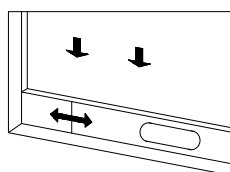
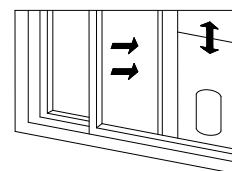

Figure2
Figure3
- 1). Half open the window, and mount the window sealing plate assembly to the window (as shown in Figure 2 and Figure 3); the assembly can be placed in horizontal and vertical direction.